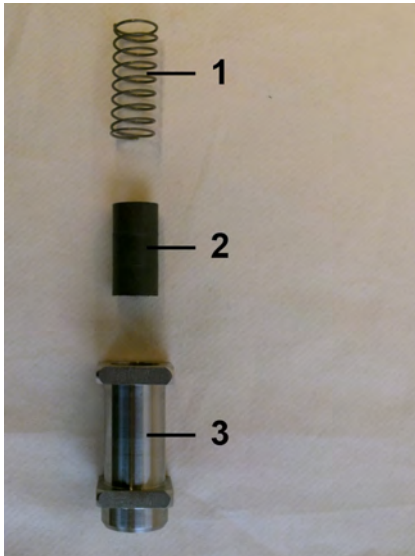

Fig. 39: Spring, magnets and float
- 5.** ▶ The inner parts of the flow monitor consist of the spring (Fig. 39/1), magnets (Fig. 39/2) and float (Fig. 39/3).